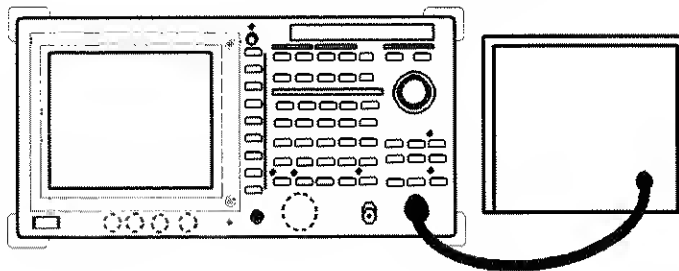

Figure 2-139 Setup for Measuring Modulation Index
1. Connect the unit under test as shown in Figure 2-139.